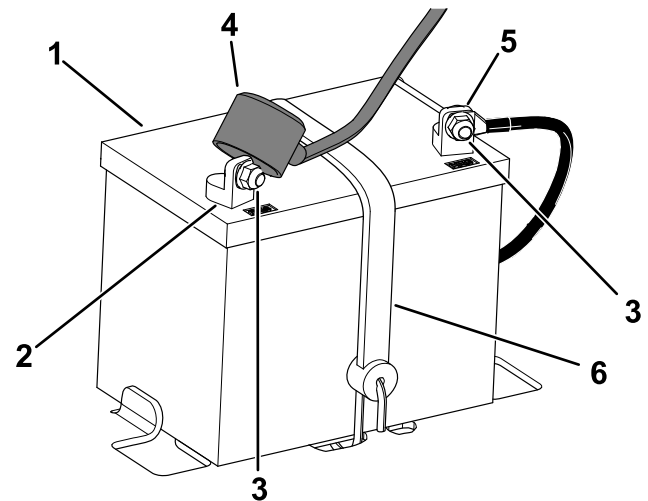

Figure 41
3. Disconnect the negative (black) ground cable from the battery post (Figure 41).
5. Disconnect the positive (red) cable from the battery post (Figure 41).
6. Remove the battery hold-down (Figure 41), and lift the battery from the tray.
1. Position the battery in the tray (Figure 41).
5. Secure the battery with the hold-down (Figure 41).